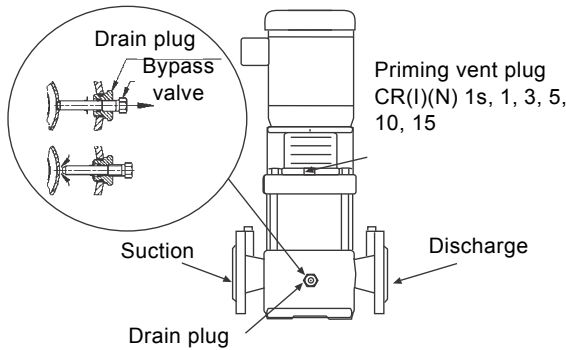
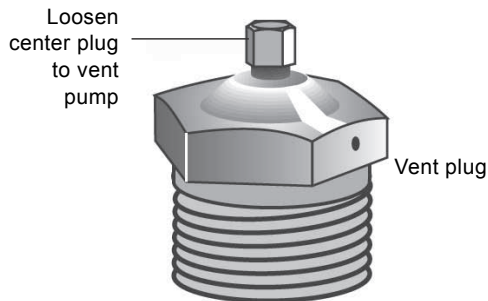

Fig. 8 Position of plugs and valve
Fig. 9 Vent plug
To prime the pump in a closed system or an open system where the water source is above the pump, close the pump isolating valve(s) and open the priming plug on the pump head. See fig. 8, fig. 8, and fig. 9.
**For CR, CRI, CRN 1s to 5 it is advisable to open the bypass valve during start-up. See fig. 8.**